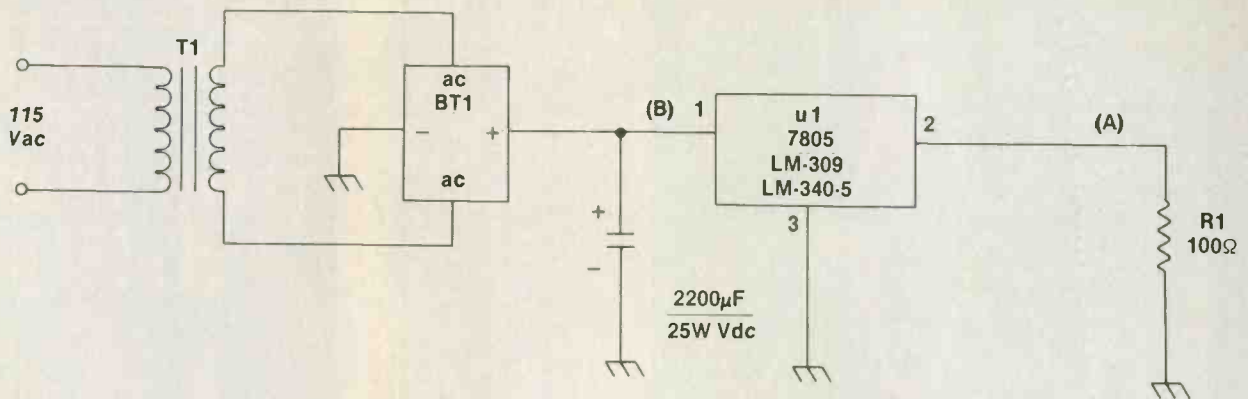

Figure 8. A basic IC voltage regulator circuit that is based on the three terminal IC regulator devices.
Figure 9. IC voltage regulators can provide the equivalent of having an impossibly large filter capacitor in the circuit. (A) is the waveform at point A in Figure 8, while the waveform of (B) is that seen at point B in the circuit, before the IC regulator.
Figure 8 shows a basic IC voltage regulator circuit based on the 3-terminal IC regulator devices. The measurements for this article were taken with a 7805 device, which, for the purpose of this article, is the same as the LM-309 and LM-340T-05 devices, all of which produce 5V output for TTL digital circuits. Similar devices are available in output voltages to 24Vdc, both positive and negative.
This effect is shown in Figure 9. The upper trace, A, is taken at point A in Figure 8, and represents the output waveform from the regulator. The bottom trace is the filtered pulsating dc at the input of the regulator device (point B in Figure 8). Both trace photos were taken with the scope vertical attenuator set to 0.1V/cm.